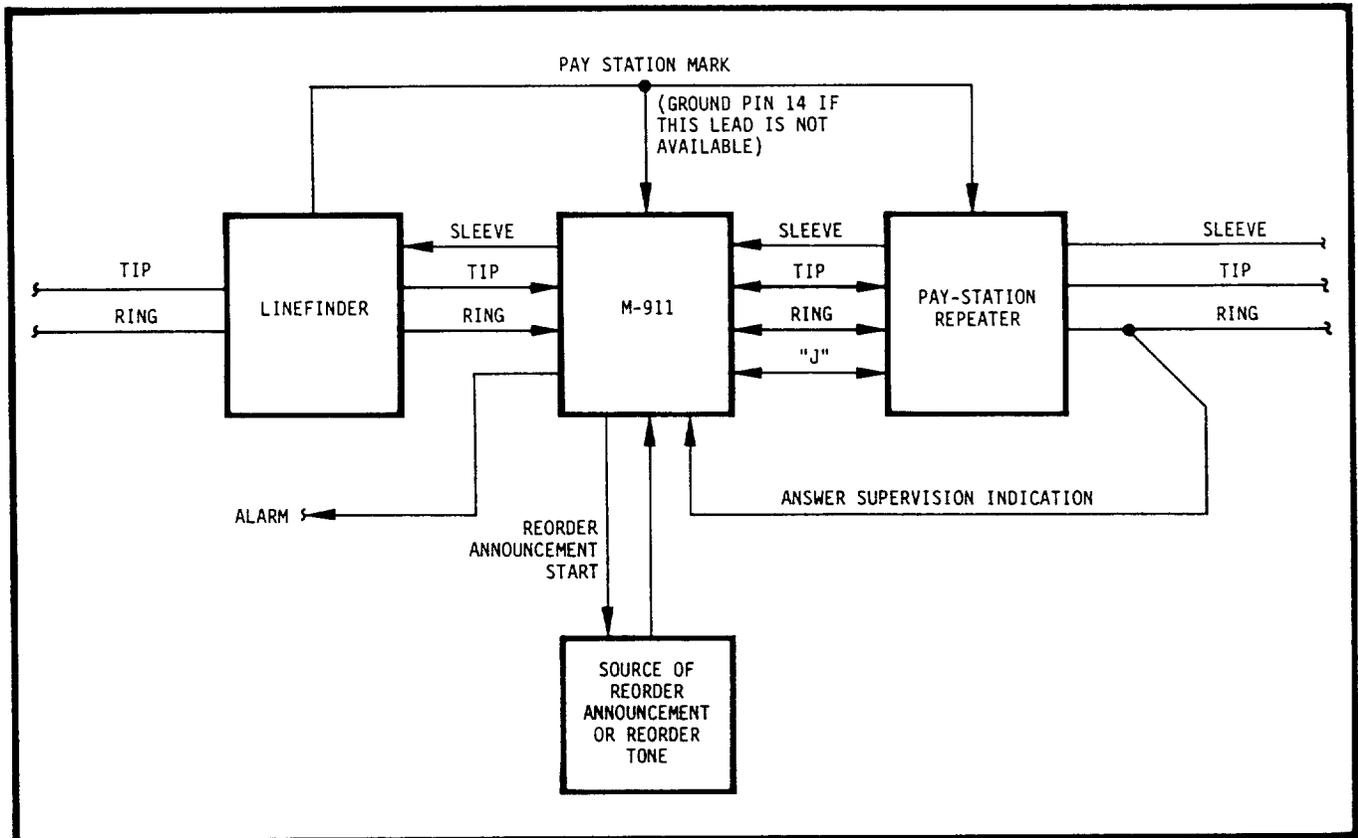

Figure 2 System Diagram
3.01 One M-911 circuit card is utilized per trunk. Each card is wired between the linefinder and the existing pay-station repeater as shown in Figure 2. The M-911 can be used either in line groups devoted to pay stations or in line groups with both pay stations and standard subscriber lines. Coin-free dialing for both rotary and DTMF pay stations is provided, as well as tone-to-pulse conversion for all calls on the trunk. This conversion process includes detecting as digits the two-of-seven frequencies signals shown in Figure 3, and resending the digits as a series of break pulses with the proper interdigital times.